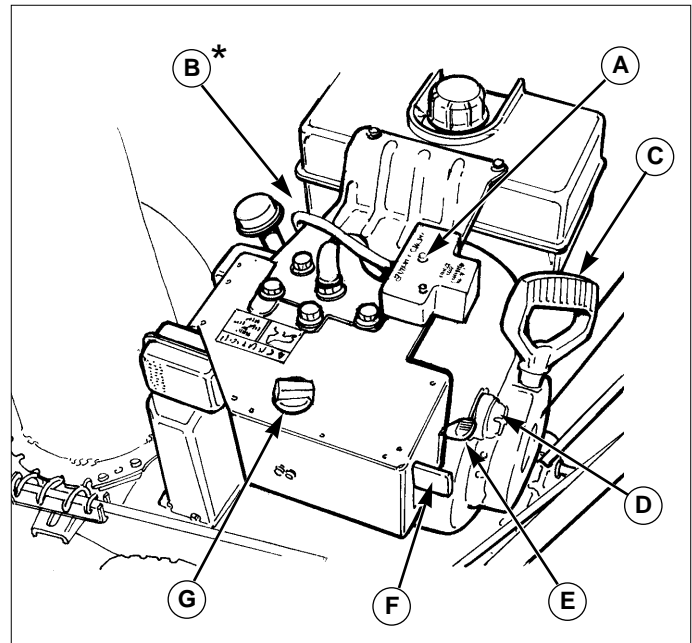

Figure 3. Engine Controls
A. Electric Start Button - The Electric Start Button (A, Figure 3) activates an electric starter mounted to the engine, eliminating the need to pull the starter handle. The Electric Start Button operates on 120 Volts AC, which is provided by connection to the extension cord provided with units equipped with this feature. **Connect this extension cord ONLY to a properly grounded 3 prong electrical outlet.**
- B. Fuel Valve** - The fuel valve (B, Figure 3) is located under the fuel tank. It is used to turn the fuel supply off for out-of-season storage.
- C. Starter Handle** - The starter handle (C, Figure 3) connects to a starter cord to manually start the engine. Pulling starter handle rapidly spins the engine crankshaft, cycles the engine, and generates the spark necessary for starting the engine.
- D. Primer Button** - When pressed, the primer button (D, Figure 3) provides initial fuel to help start a cold engine. Normally, pressing the primer button twice will provide enough fuel to start a cold engine.
- E. Throttle Lever** - The throttle lever (E, Figure 3) controls the engine speed. For best overall performance, the throttle lever should be set to the **FAST** position. Use the **SLOW** position only for warming the engine, or to help prevent snow/ice freeze-up when shutting the unit down for the day.
- F. Engine Key** - The Engine Key (F, Figure 3) prevents the engine from being started by unauthorized individuals. The key must be fully inserted into the key slot for the unit to start. The key is also used to stop the engine by pulling the key out of the key slot.
- G. Choke Knob** - The Choke Knob (G, Figure 3) adjusts the air/fuel mixture, and is used to help start a cold engine by providing a richer mixture. Once the engine is warm and running smoothly, the Choke Knob should be set to the off position to provide a normal air/fuel mix.